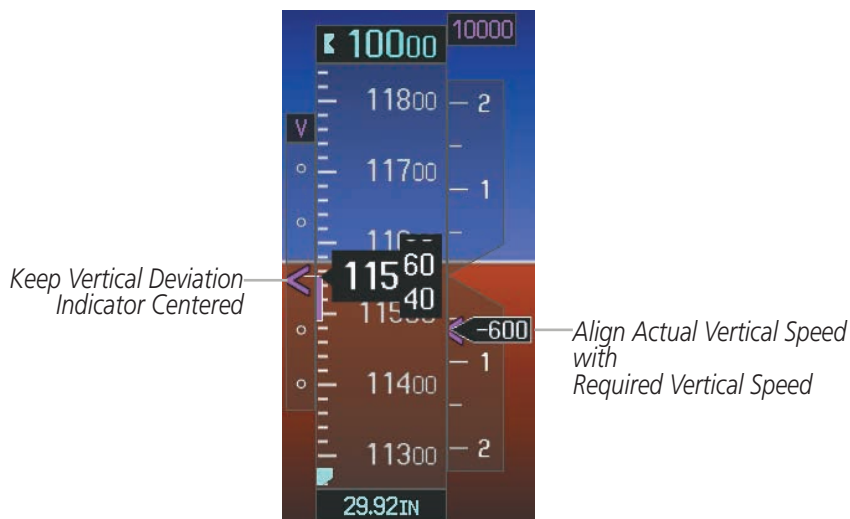

Figure 5-140 VDI & RVSI Showing Correctly Established Descent
- 16) Upon reaching TOD, a descent vertical speed is established by placing the VSI pointer in line with the RVSI as shown in Figure 5-140.